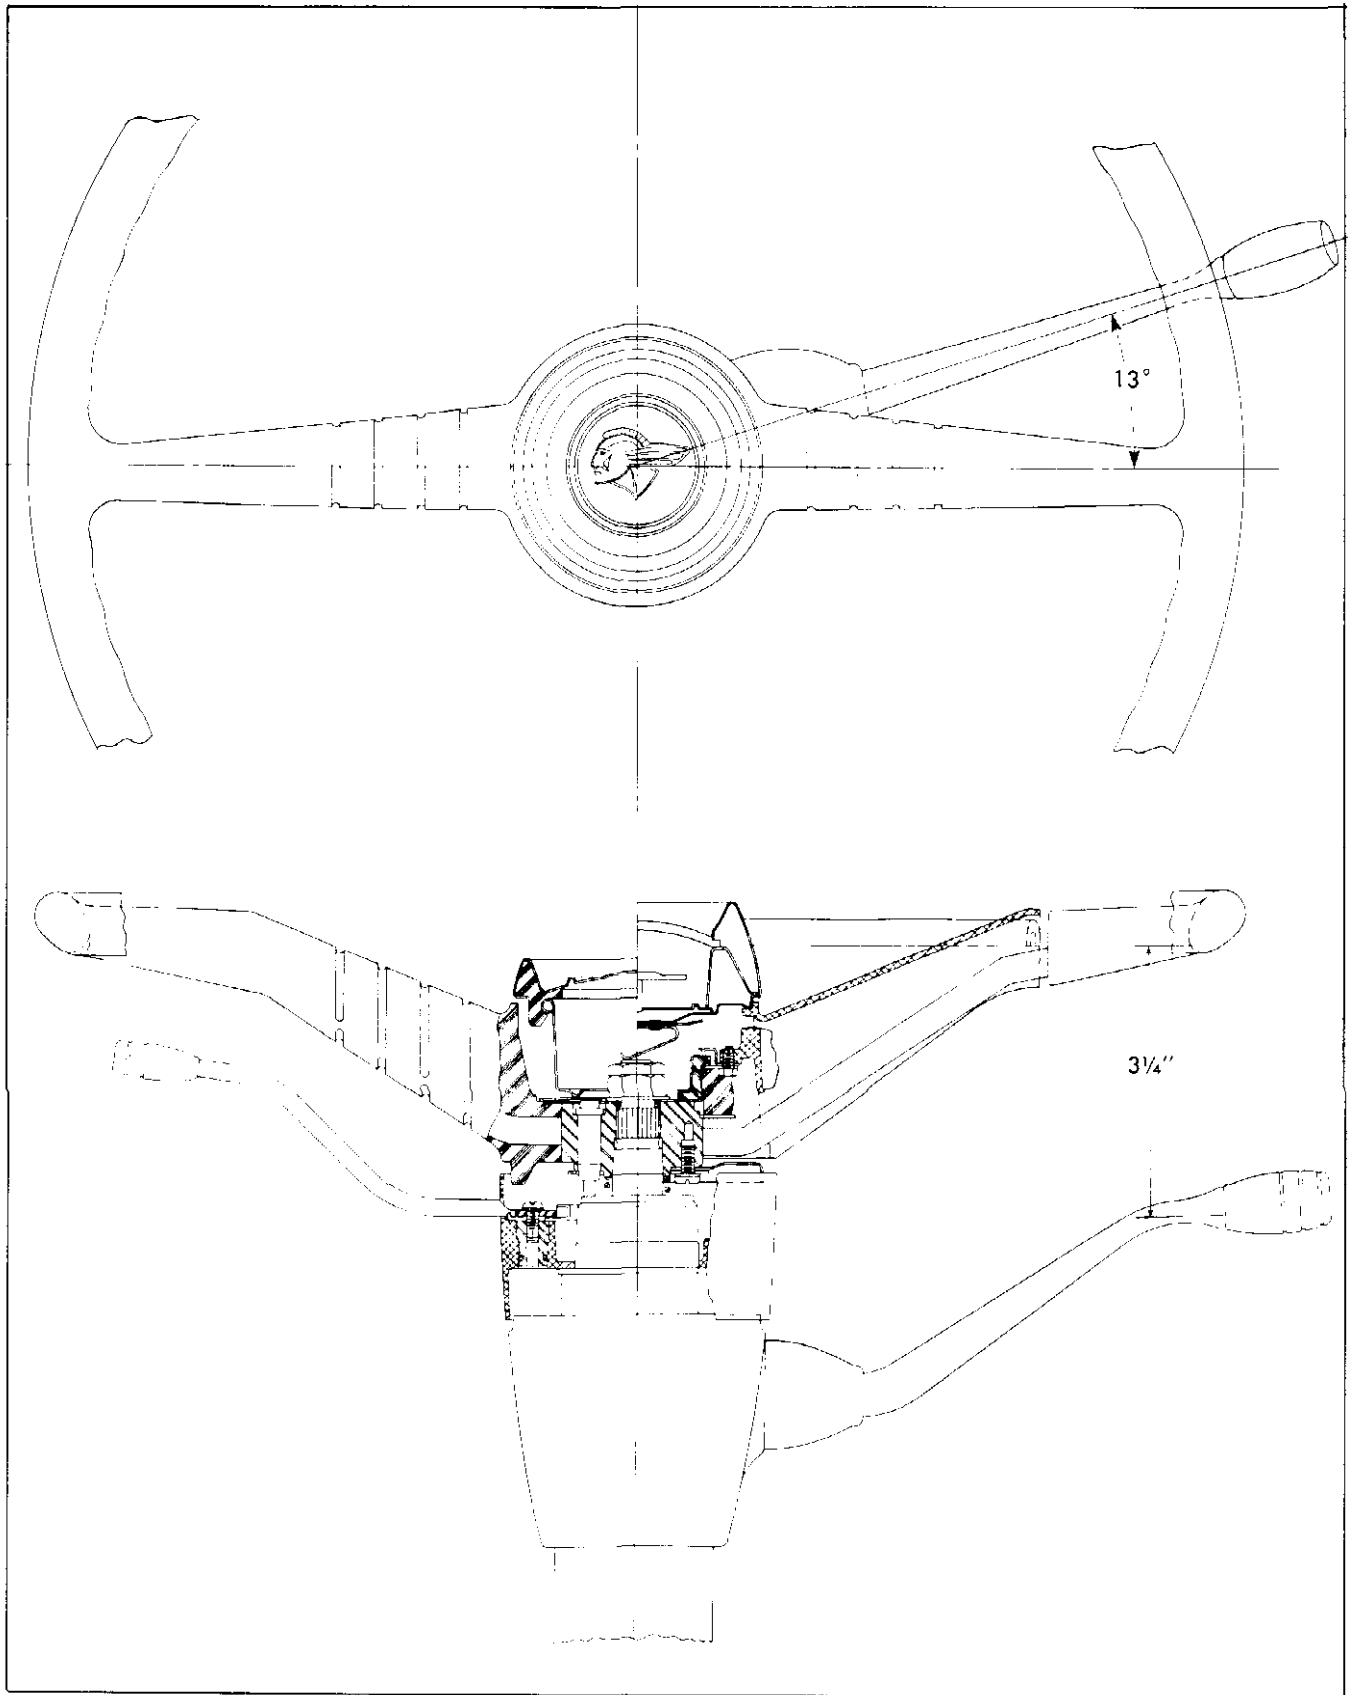

Fig. 7-3 Gearshift Lever Adjustment
1. When gearshift lever is in neutral position, clearance between lever and steering wheel should be approximately $3\frac{3}{4}$ " (Fig. 7-3). To adjust, hold transmission selector rod in its rearmost position, (normal position for 2nd and 3rd) and adjust selector rod trunnion for proper gearshift lever position. Lengthen selector rod to move lever closer to steering wheel.